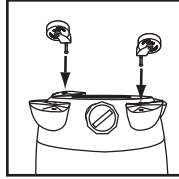

FIGURE 7
6. Take flat washer and place over stem of caster. Insert casters into feet by placing stem of caster into holes provided. Apply pressure and twisting motion until casters snap into place. **FIGURE 7**.